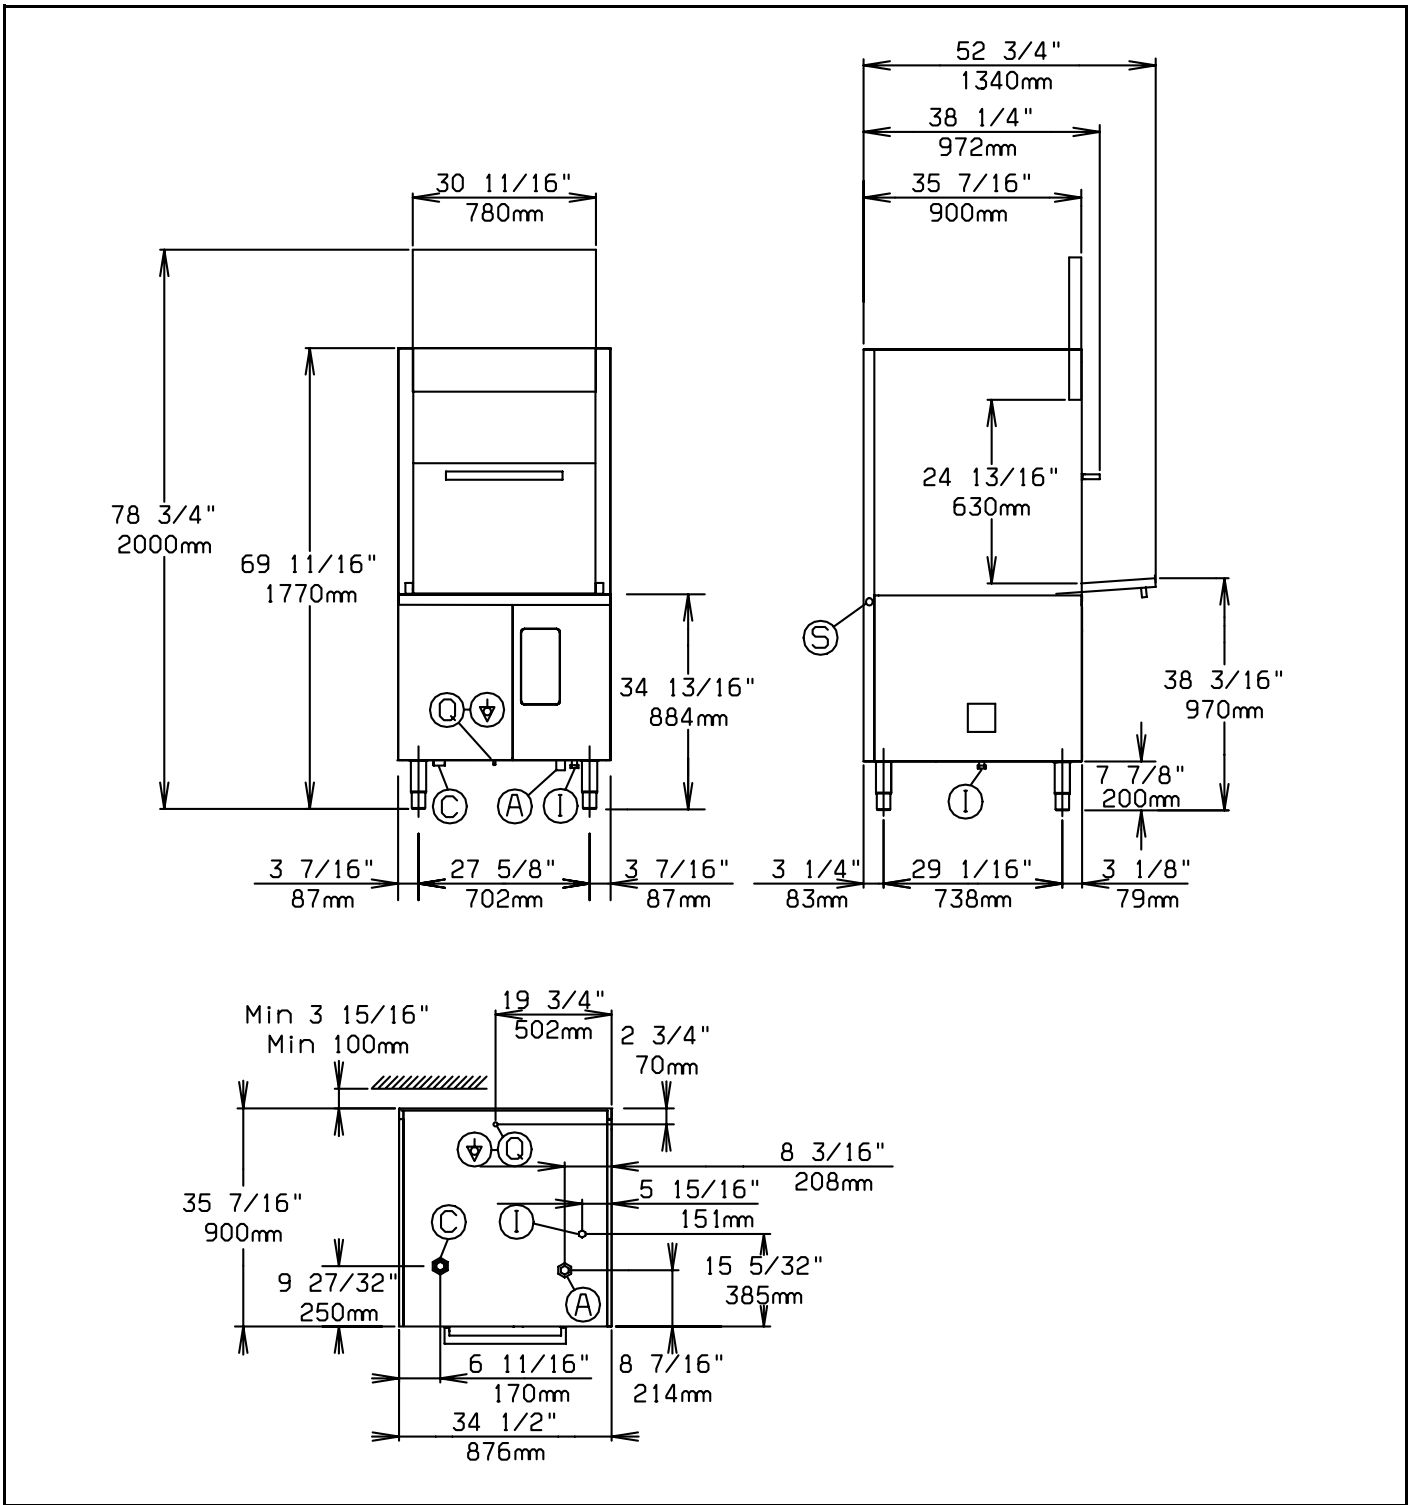
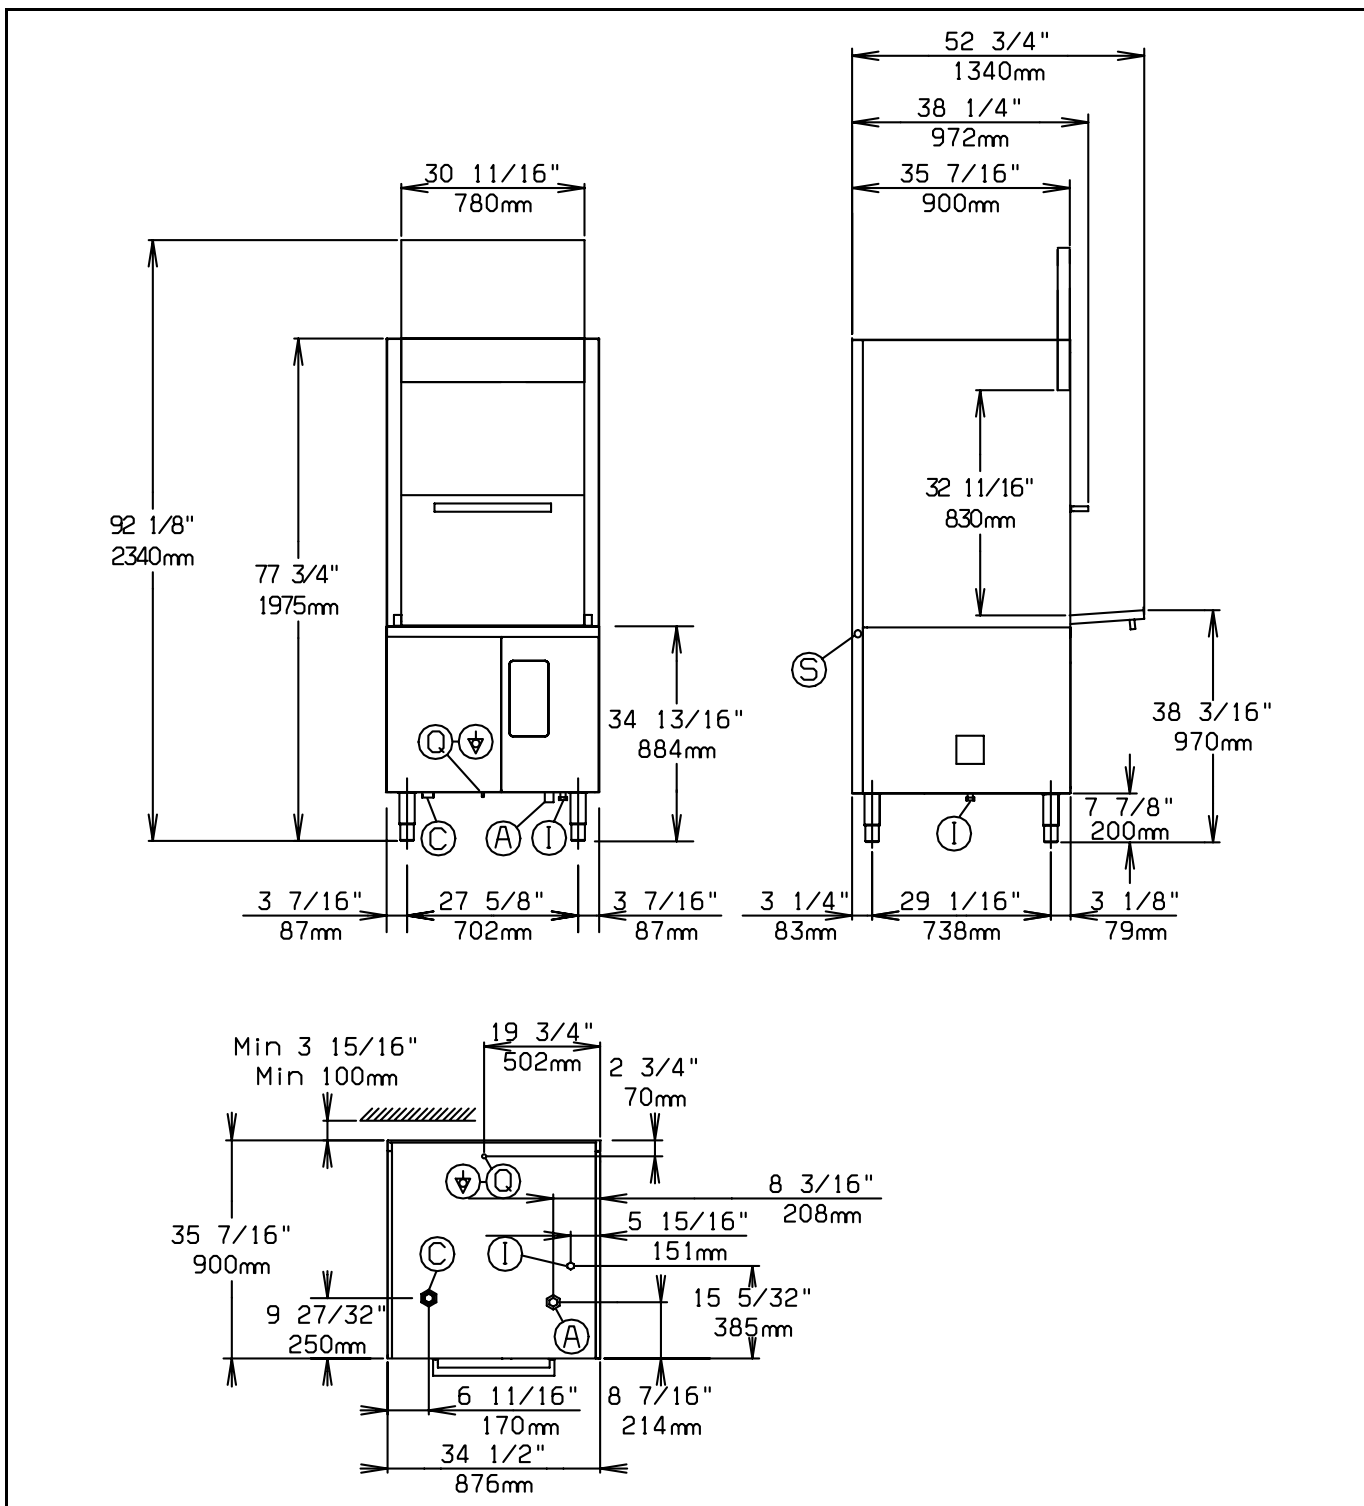
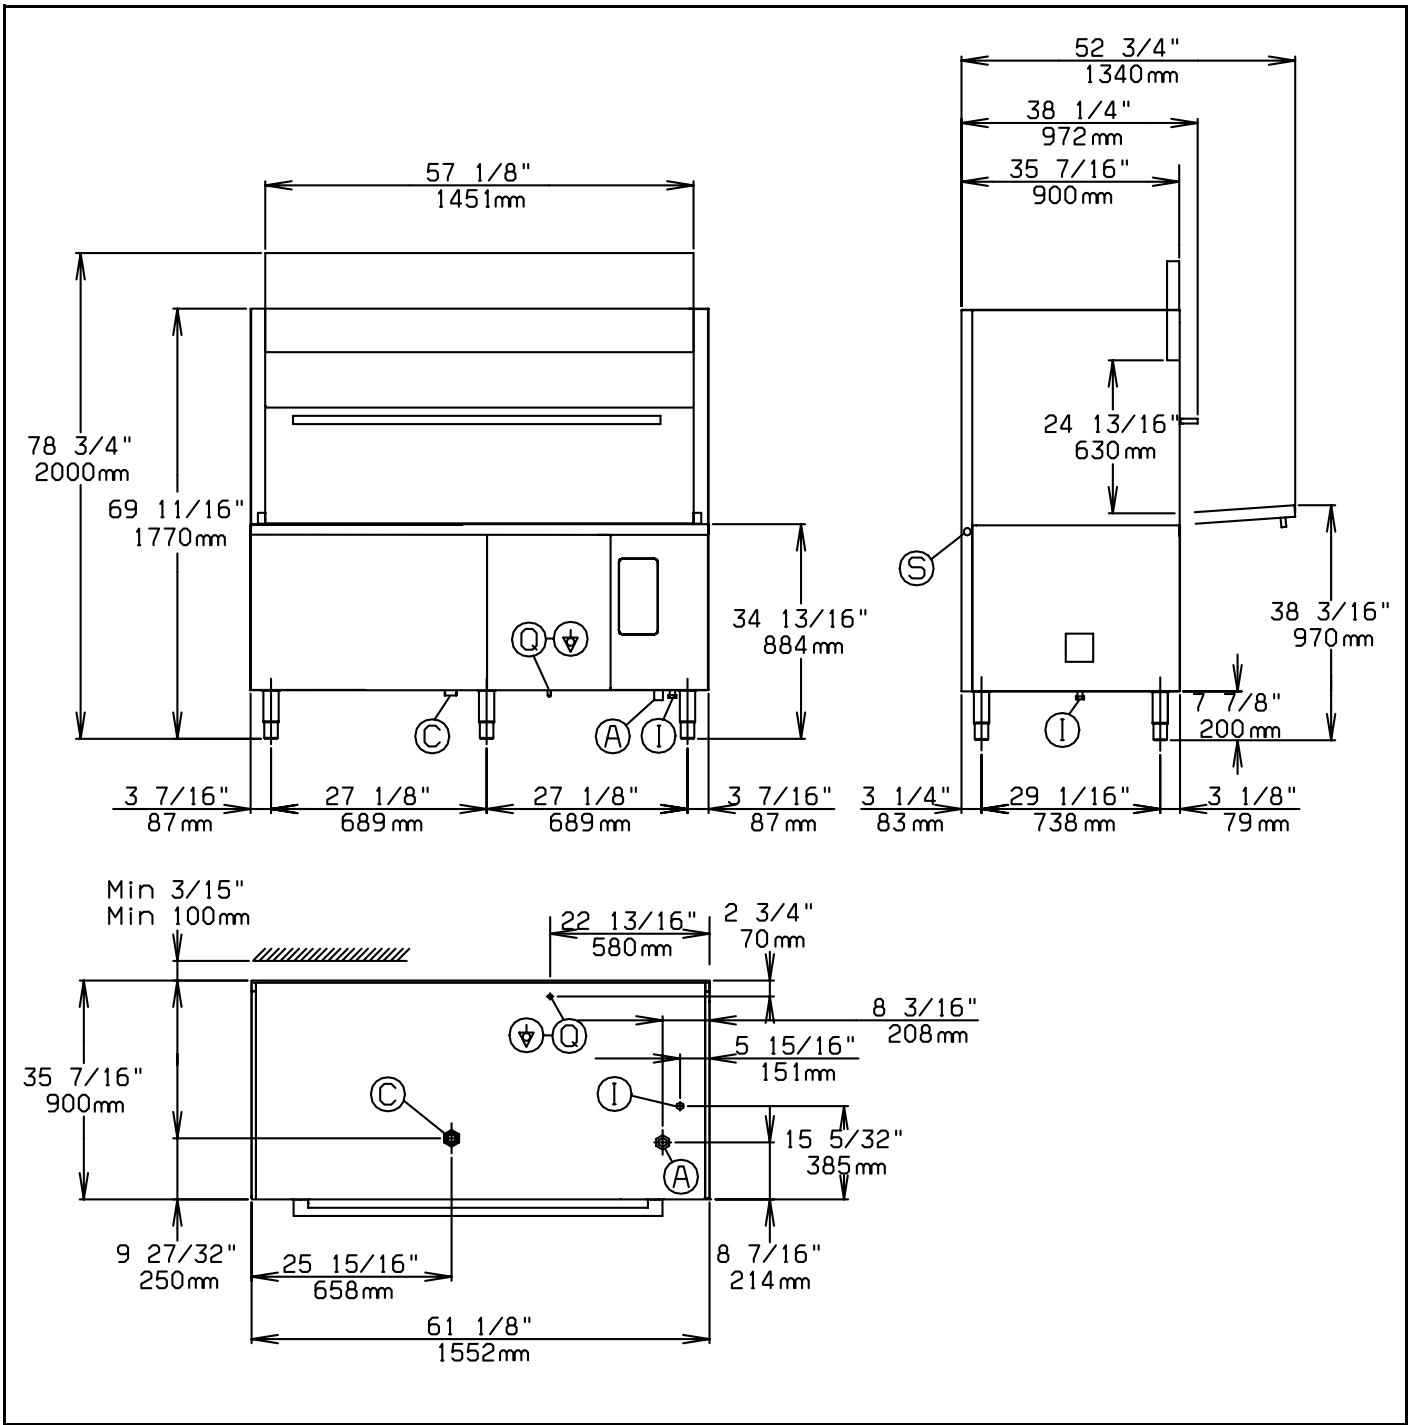
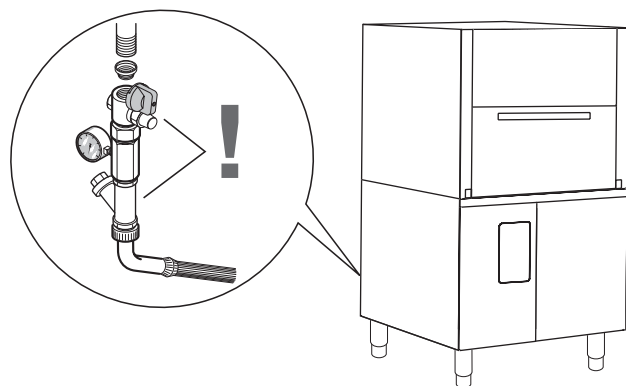

Figure 4 Installation diagram PW1M
Figure 5 Installation diagram PW1MH
Figure 6 Installation diagram PW2M
Figure 8
Legend Figure 4
Legend Figure 5
Legend Figure 6
- Connect the appliance water supply pipe “A” (Figure 4/Figure 5/Figure 6) (keeping with local plumbing codes) to the incoming water supply. Install a shutoff valve, Y-Strainer and a pressure gauge between the appliance and the incoming water supply of the unit (Figure 8).
connect the waste outlet pipe “C” (Figure 4/Figure 5/ Figure 6) to the main drain pipe, using a trap, or place the outlet pipe over an “S” trap set into the floor.
- The appliance requires a ground connection to the unit ground screw located at the rear of the unit marked “Q” (Figure 4/Figure 5/Figure 6) in the manual and marked with the symbol “⚡” on the unit.